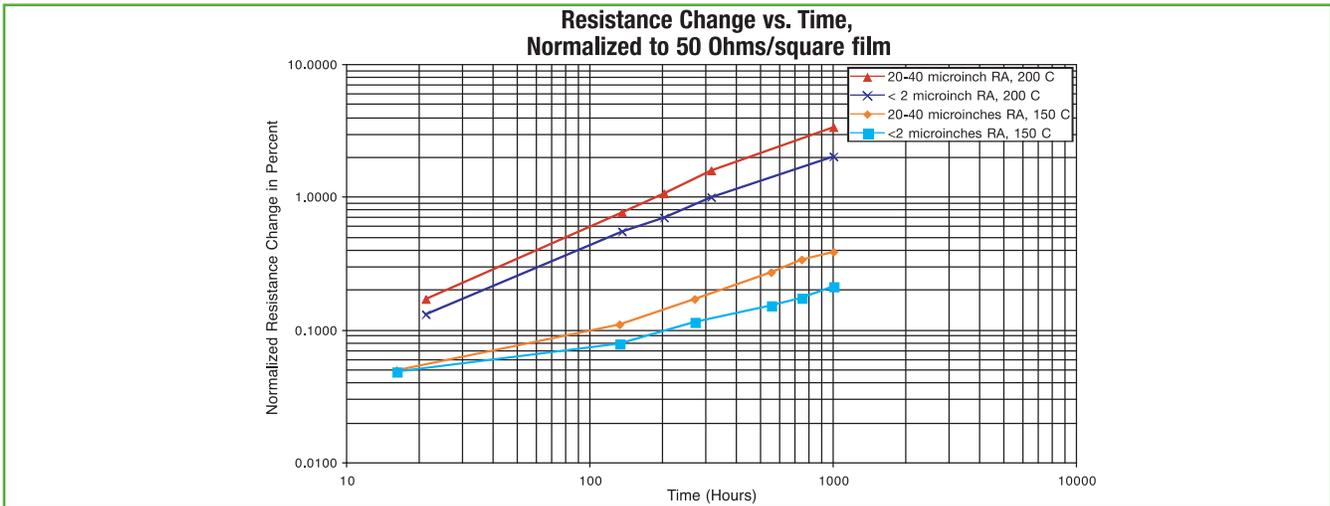

Figure 5: Normalized percent resistance change of TaN oven-aged resistors
Figure 5 shows the average measured change in resistance of four groups of ten each Ta₂N thin-film resistors placed in an oven – no applied power to the resistors – and aged for 1000 hours. The latter number of hours appears to be a de facto industry specification, although the governing military spec, MIL-PRF-55342 calls out 2000 hours. Measurements were made at two different temperatures and were repeated on AIN supplied by different vendors (not shown), and on substrates from the same vendor but having different average surface roughnesses. In general, resistance change during aging, $\Delta R/R$ when expressed as a percentage of initial resistance, followed the formula predicted by theory,¹
scaled by the ratio of actual film resistivity, 72 ohms/square, to 50 ohms/square using equation (1). Since the substrate used had an average surface roughness of 20-40 microinches, the lower curve should be comparable to the 200 °C oven-aged result for this substrate shown in Figure 5. The results are indeed close; oven aging (1000 hours, 200 °C) produced a 3.4% change, AC power aging (907 hours, 190 °C, peak) produced a 3.4% change. This good agreement, however, is somewhat misleading. In addition to the slightly different test times, there are uncertainties connected with the production resistors that make the exact comparison less accurate: (1) Their area-average temperatures were less than the peak temperatures; (2) their exact surface roughness had a range of 20 microinches; and 3) their widths were laser trimmed by amounts ranging from 0 – 20%.